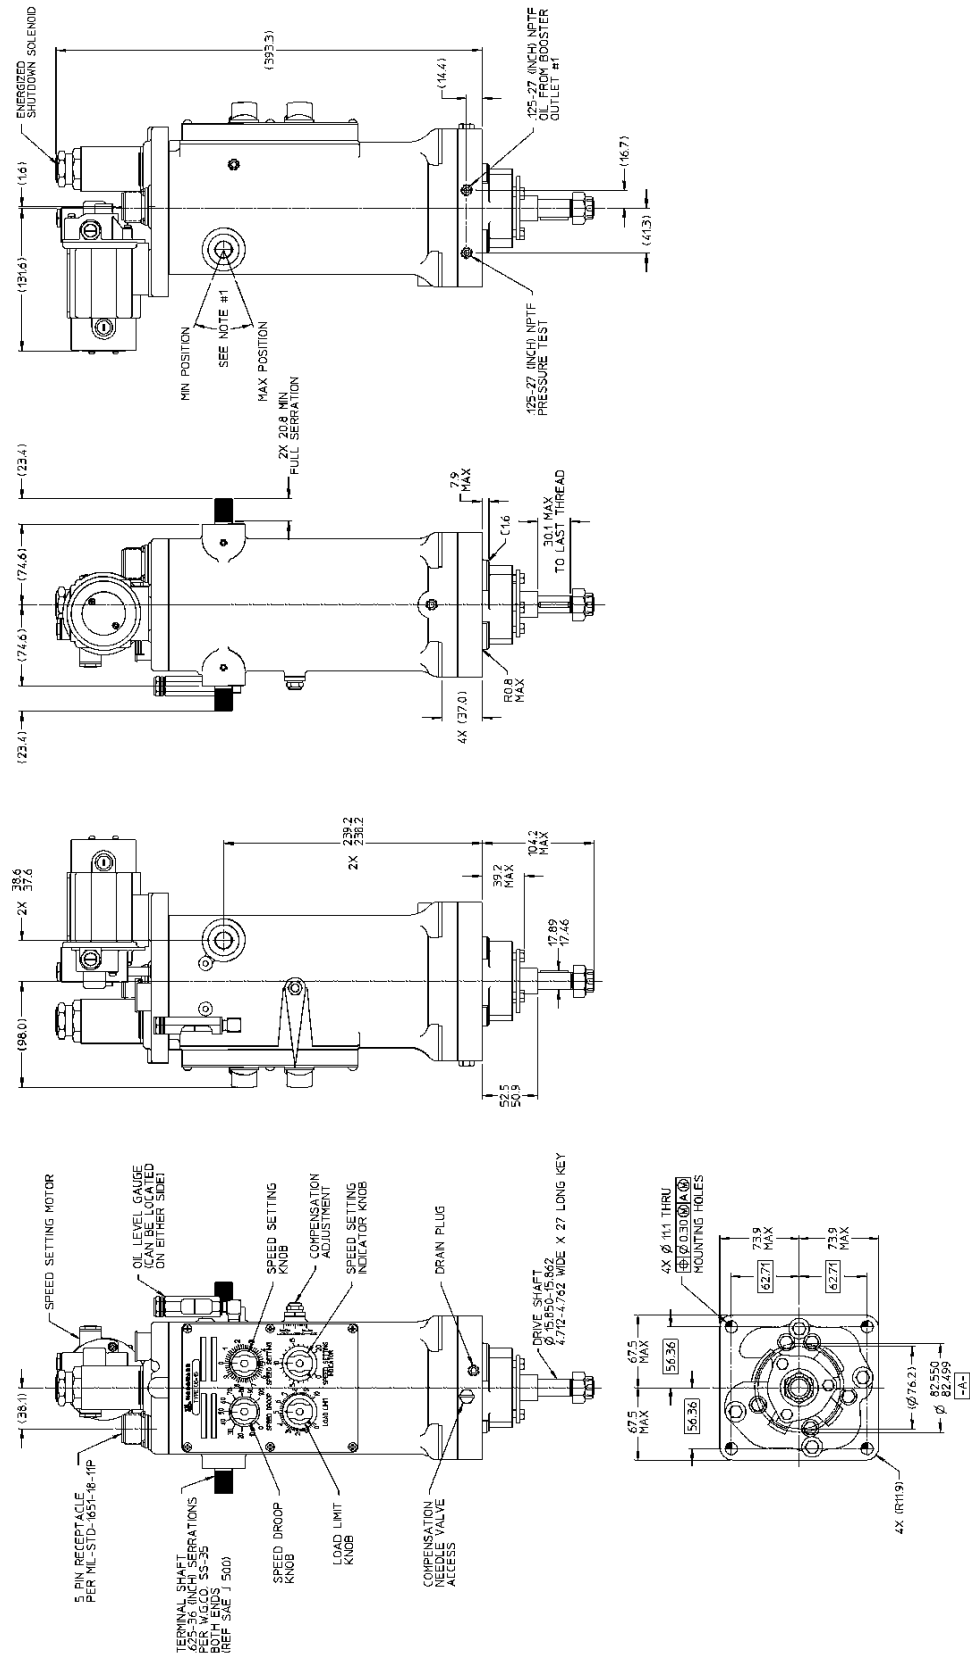

Figure 1-2. UG-15 Dial Governor Outline Drawing
5. See the outline drawing (Figure 1-2) for mounting hole sizes and governor dimensions.
Be sure there is adequate space available around the governor to provide easy access for installing the control linkage, filling the governor with oil, and adjusting the speed and compensation system. See the outline drawing (Figure 1-2) for mounting hole sizes and governor dimensions.